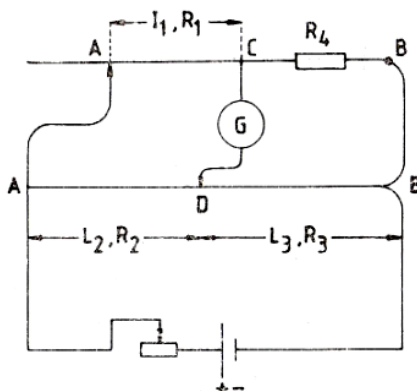

Figure 2.24
2. The circuit in Figure 2.24 is established. Set up the circuit with CuNi (constantan) resistance wires with diameters $d_1 = 1\text{ mm}$, $d_2 = 0.7\text{ mm}$, $d_3 = 0.5\text{ mm}$, $d_4 = 0.35\text{ mm}$ respectively as R_1 wire in the circuit diagram.